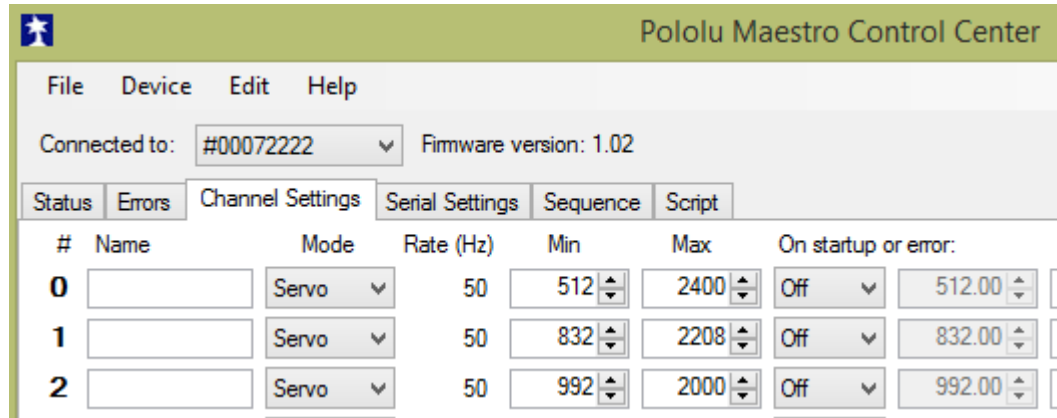

Figure 2.2: Channel settings tab of the Maestro Control Center
4. For safety reasons, it is important to verify that the min and max pulse widths allowed by the board match with those actually supported by your servos. These limits are usually provided by the vendor. You can verify this on the Channel settings tab at the Maestro Control Center (see figure 2.2).